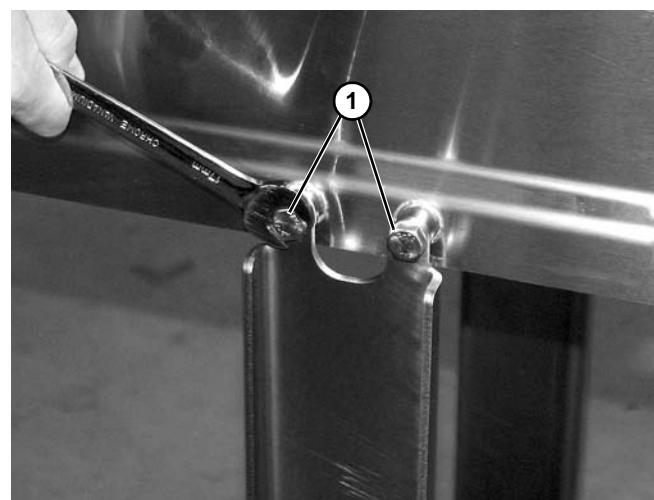

Figure 20
2. Remove two screws (Figure 20, item 1) securing the stand brackets from one side of the conveyor.